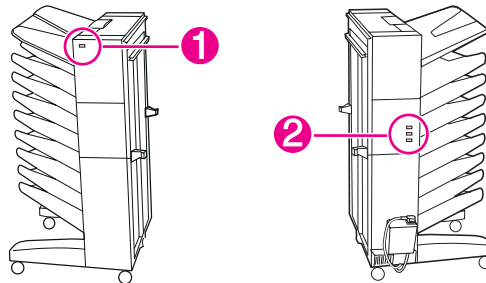

Figure 7-9
- **User LED.** The first is a single LED located on the right side of the top cover (Figure 7-9, callout 1). This User LED provides information to the end user about the 8-bin Mailbox power-on status and the attachment and alignment to the printer.
- **Service LEDs.** The second set is formed by three independent LEDs located in the middle of the left side cover (Figure 7-9, callout 2). This group is called the Service LEDs, and they show additional technical information to decode the 8-bin Mailbox status.